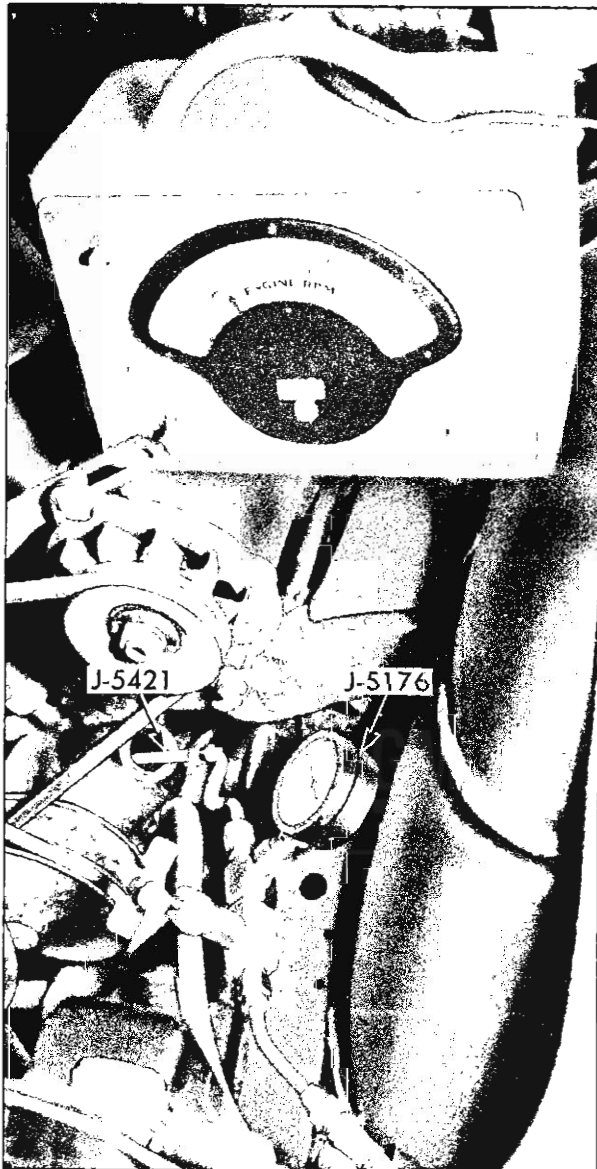

Fig. 18—Power Steering Diagnosis
- A. With engine not running, disconnect flexible pressure line from steel pressure line of pump and install Tool J-5176 as shown in Figure 18. Gauge must be between shut-off valve and pump. Shut-off valve must be open.